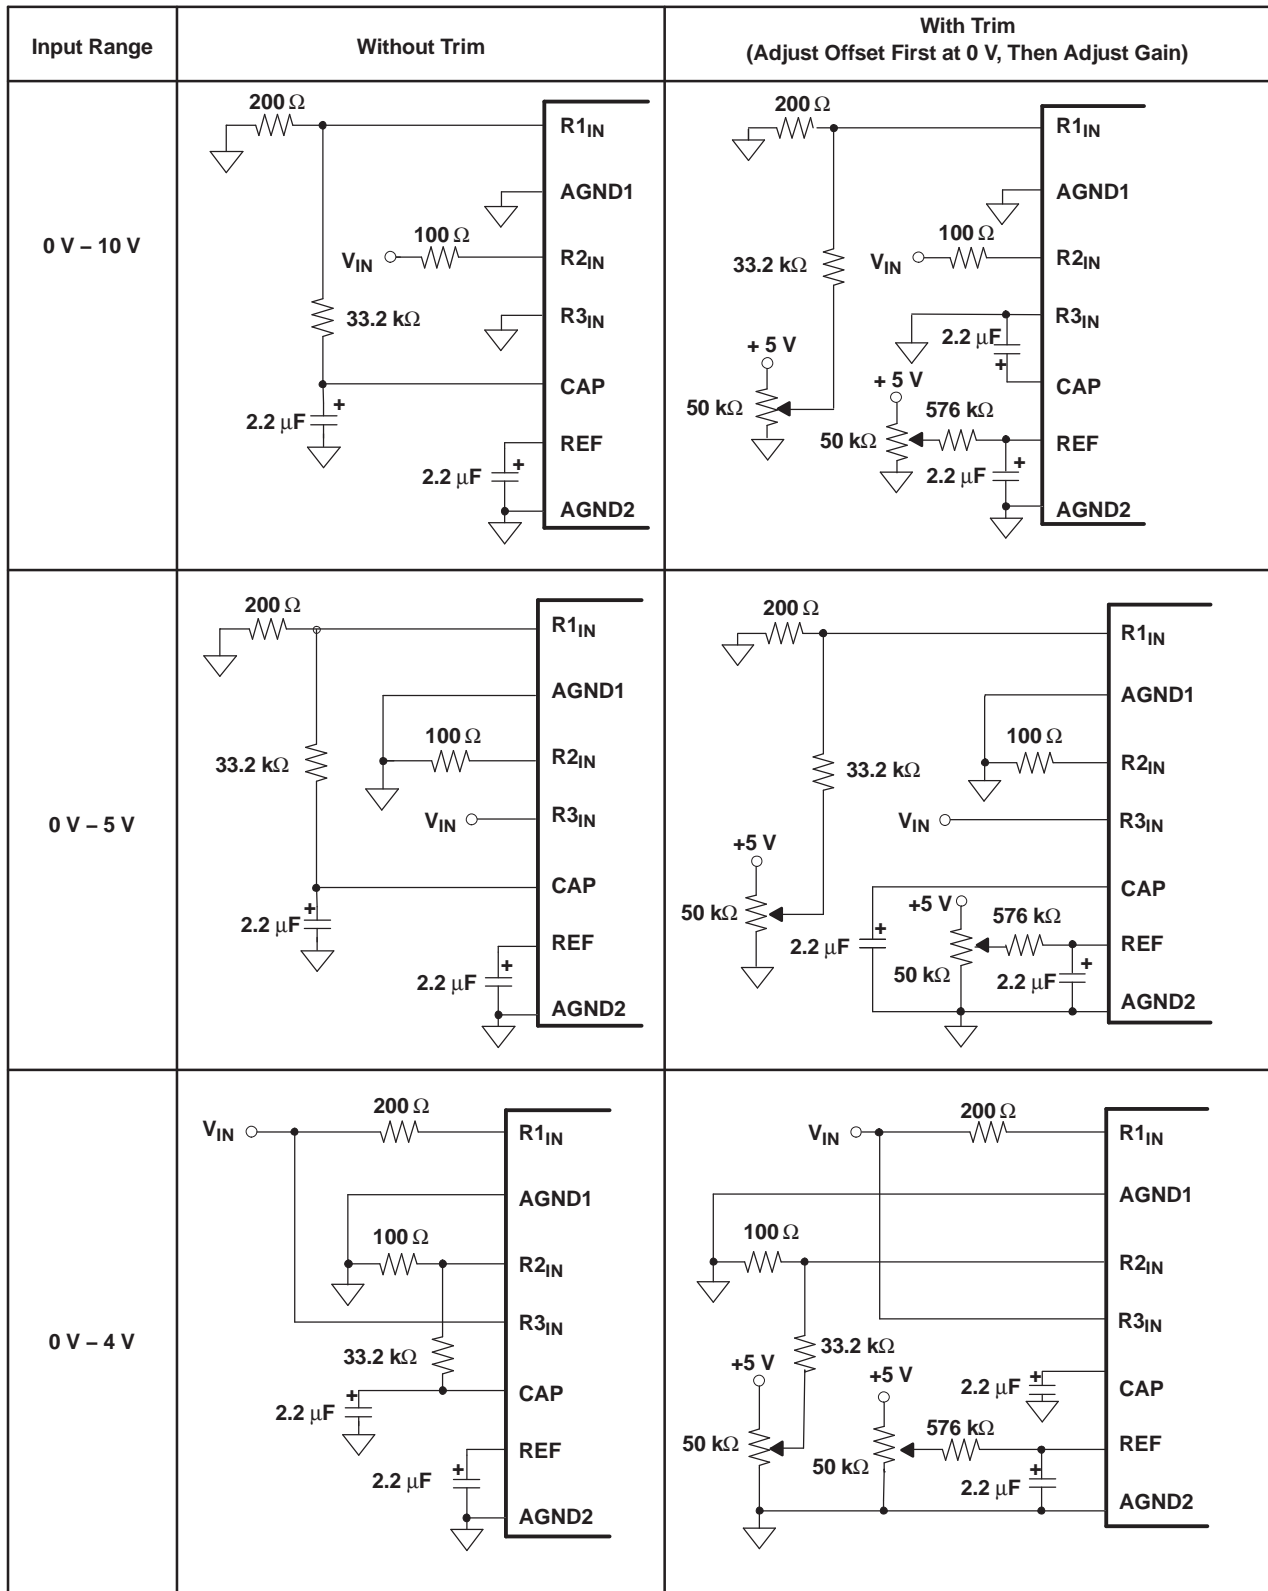

Figure 29. Offset/Gain Circuits for Unipolar Input Ranges
**Table 2. Input Range Connections (See Figure 29 and Figure 30 for Complete Information)**